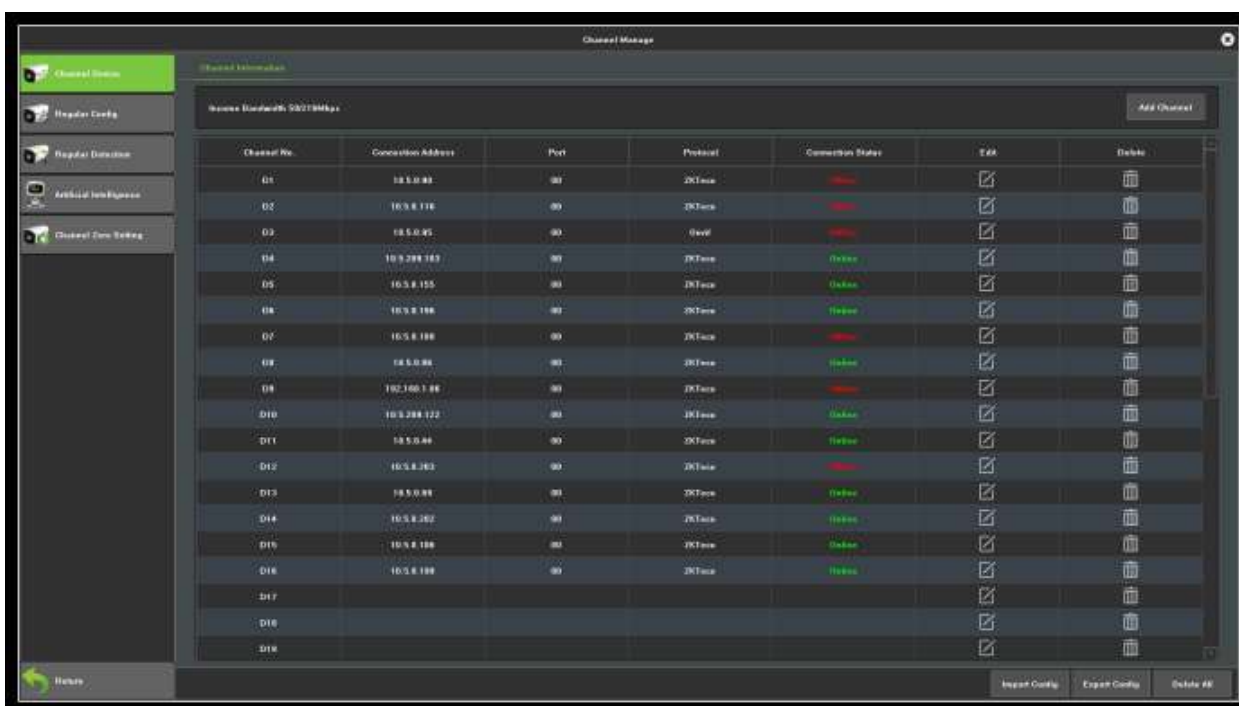

Figure 7.1 Quick Adding IP Camera Interface
1. Click  icon, enter into the Channel Connecting interface, as shown in Figure 7.1.